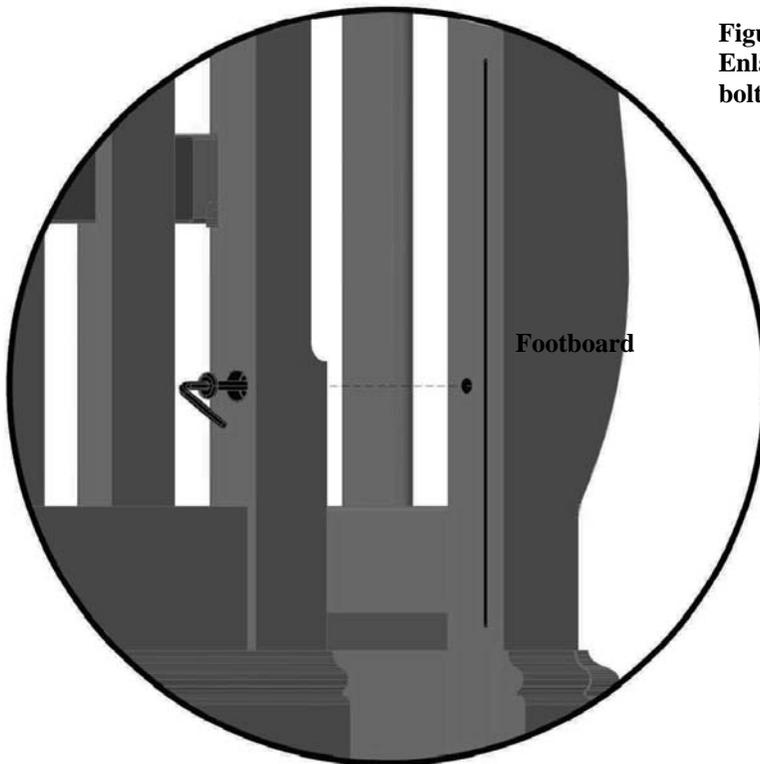

Figure 9.
See Figure 9.
- Using (4) $2\frac{3}{8}$ " connector bolts, loosely attach the footboard as indicated in Fig 9.